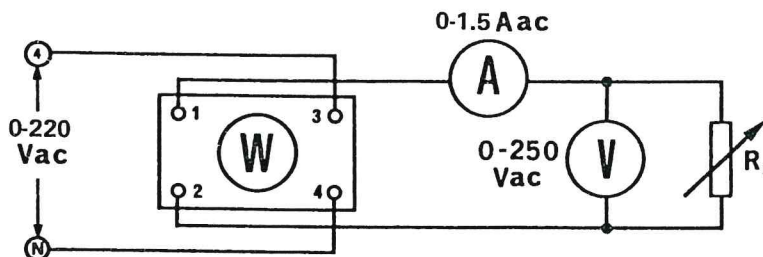

Fig. 15-3
□ 4. Connect the circuit shown in Fig. 15-3. Notice that this circuit is identical to the one used in Procedures 2 and 3 except that now the input and output terminals of the wattmeter have been interchanged.